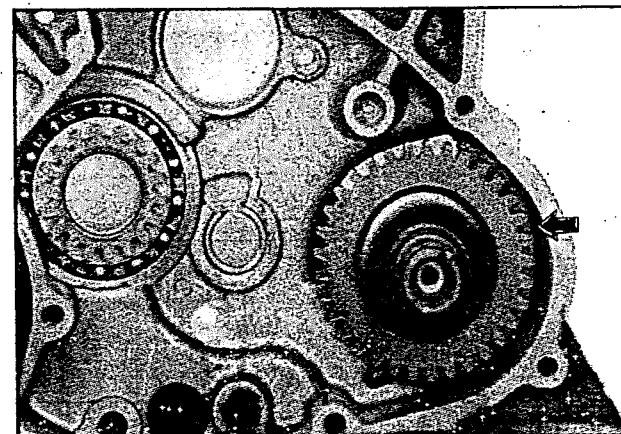

Fig 3.42
- Remove the kick starter drive gear and shaft assembly (fig 3.42)